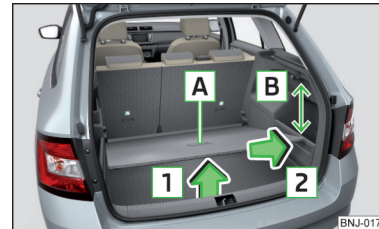

Fig. 116
- Lift the variable loading floor at the handle **A** in the direction of arrow **1** until its rear area is about 15 cm **B** below the edge of the foldable cover » Fig. 116.
- Grasp the variable loading floor at handle **A** » Fig. 116.
When removing or inserting the variable loading floor, a distance of 15 cm **B** » Fig. 116 underneath the edge of the foldable cover must be adhered to, there is a risk of damaging the boot lid seal.